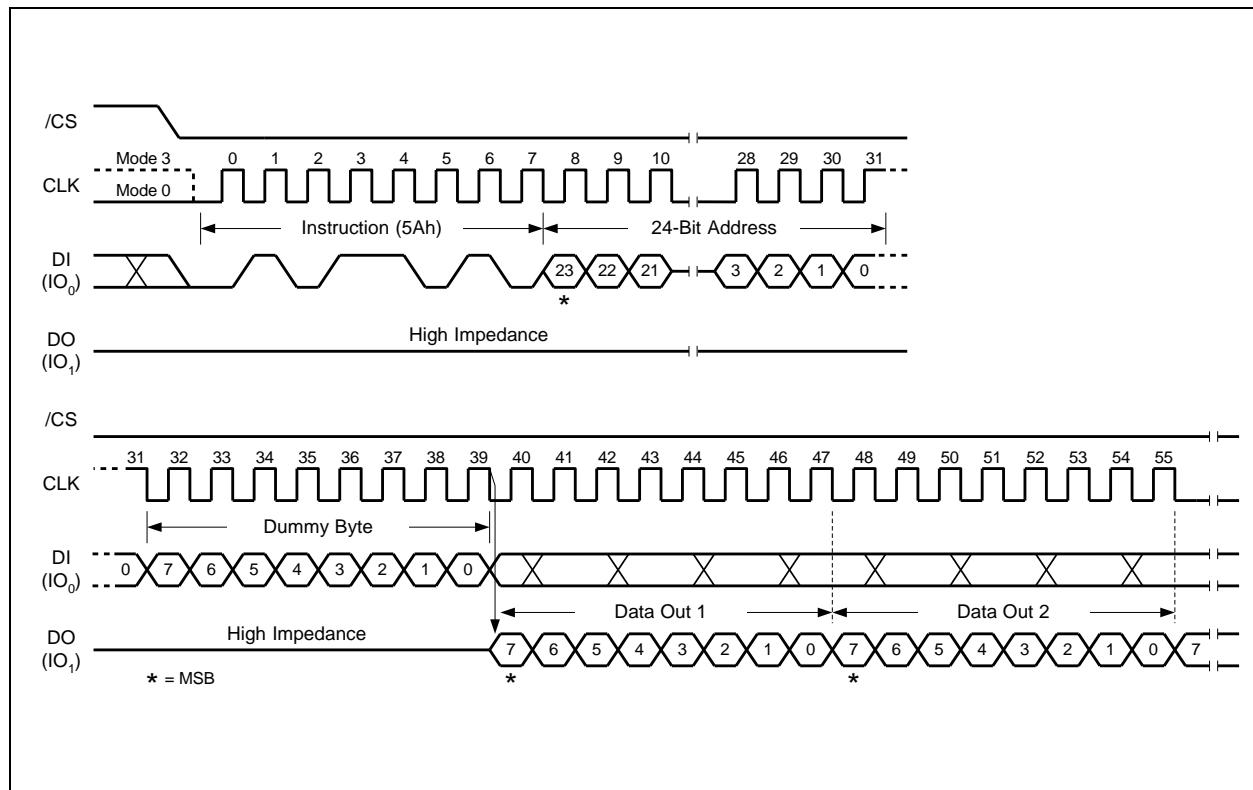

Figure 44. Read SFDP Register Instruction Sequence Diagram(SPI mode only)
The Read SFDP instruction is initiated by driving the /CS pin low and shifting the instruction code “5Ah” followed by a 24-bit address (A23-A0)(1) into the DI pin. Eight “dummy” clocks are also required before the SFDP register contents are shifted out on the falling edge of the 40th CLK with most significant bit (MSB) first as shown in Figure 44. For SFDP register values and descriptions, please refer to the Winbond Application Note for SFDP Definition table.